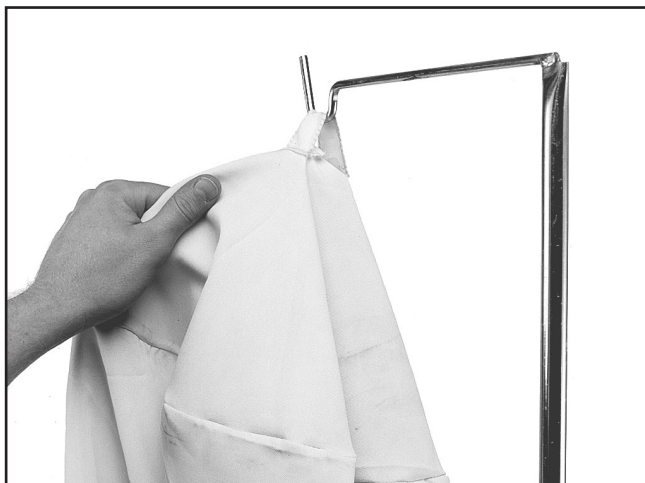

Figure 20. Attaching upper filter bag.
- a. Hook the top loop of the upper filter bags (fabric) over the upper bag supports, as shown in Figure 20.